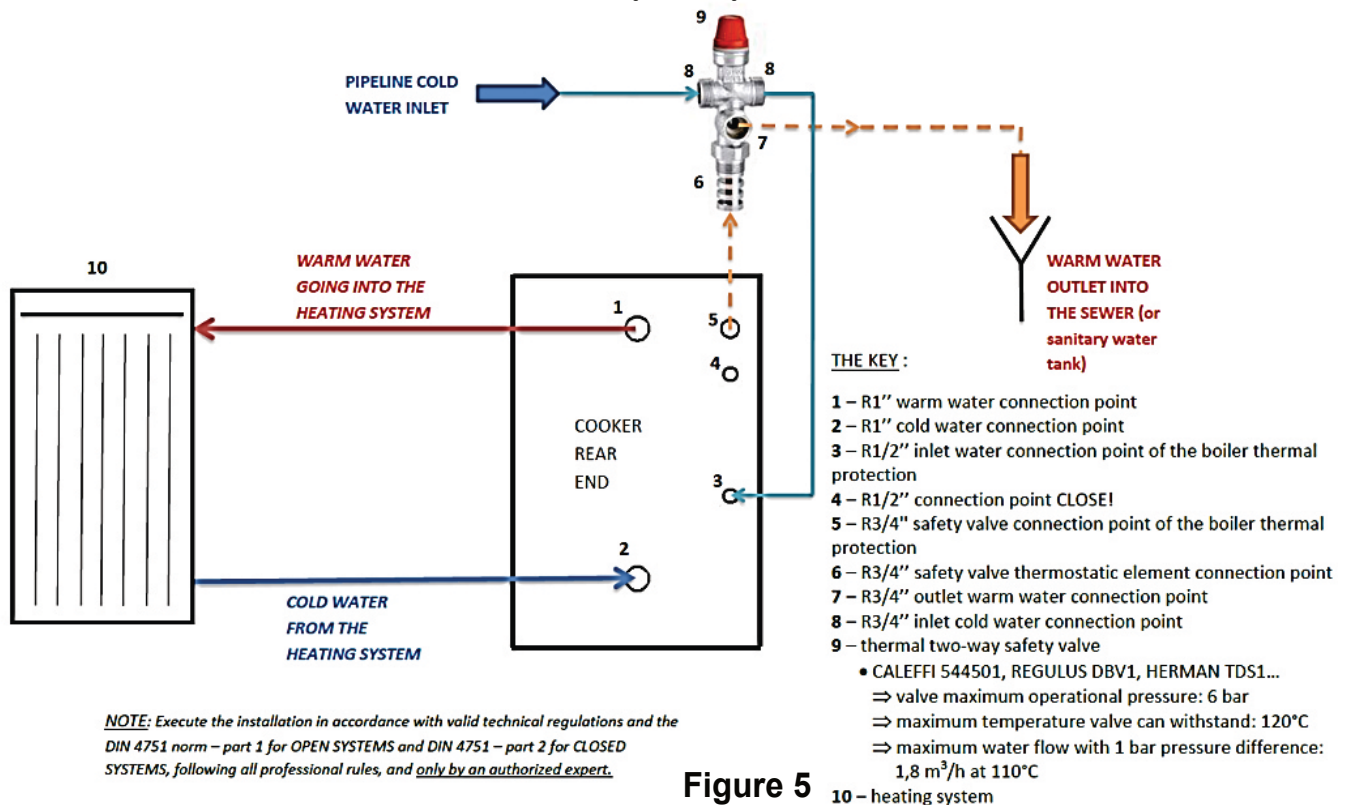

Figure 5
When connecting the cooker to the central heating system it is **necessary to install the safety thermal valve**. It shall be installed on the **cooker rear side to R3/4” connection point – inner thread** ⇒ see *Figures 5 and 6*.
- R3/4” (7) - *figure 5*,
The **sensor (probe) of the safety thermal valve** is connected to the **connection point (5)** ⇒ broken line in *Figures 5 and 6*.